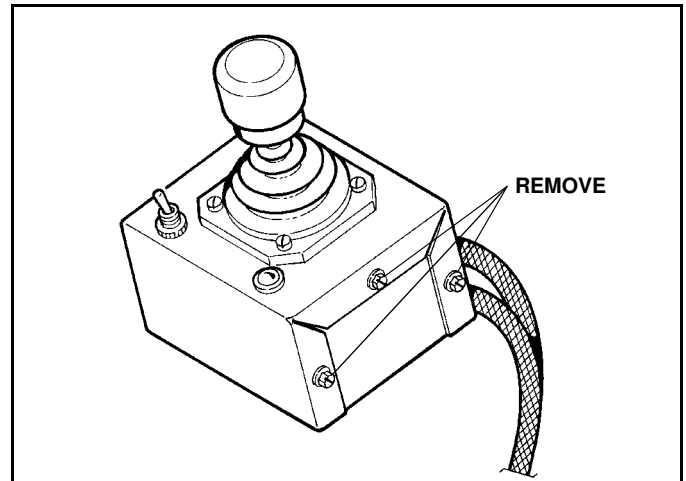

Figure 1-5
3. Remove the three hex slotted head screws from each side of the Controller Housing and remove the controller Housing Bottom Plate. (See Figure 1-5)